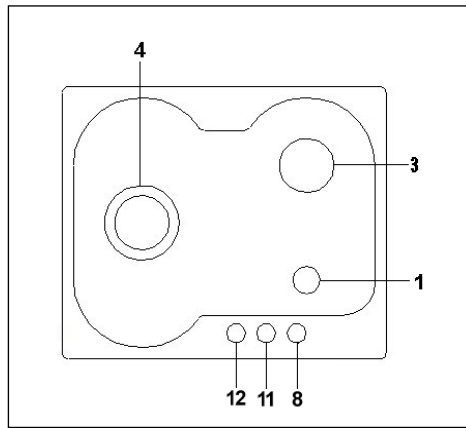

Fig.11A
- GAS HOB TYPE **P650**, see Fig. 11A - Electrical Diagram E
#### DESCRIPTIVE CAPTION FOR HOB (Figs. 11A-11B)